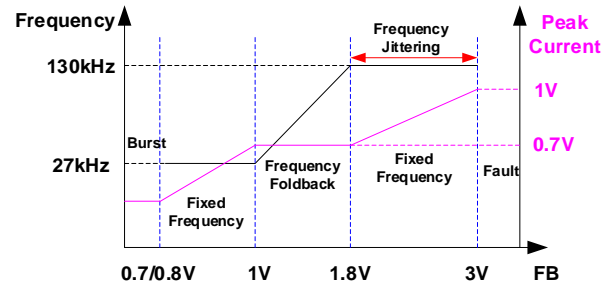

Figure 3: f_{SW} and I_{PEAK} (V_{CS}) vs. V_{FB}
A controlled current source (fixed at 5.4µA when $V_{FB} = 2V$) charges the internal oscillator capacitor (C_{OSC}). Comparing the capacitor voltage to the TIMER pin voltage determines f_{SW} . Frequency jittering is accomplished by varying V_{TIMER} between 3.2V and 2.8V (see Figure 3). The frequency jitter period (t_{JITTER}) can be determined with Equation (1):
When the load decreases to a set level ($1V < V_{FB} < 1.8V$), the controller freezes I_{PEAK} (as measured on the CS pin, typically 0.7V) while reducing f_{SW} to 27kHz to reduce switching losses. If the load continues to decrease, I_{PEAK} decreases with the 27kHz fixed frequency to avoid audible noise. Figure 3 shows the relationship between f_{SW} and the feedback voltage (V_{FB}), as well as between I_{PEAK} (V_{CS}) and V_{FB} .